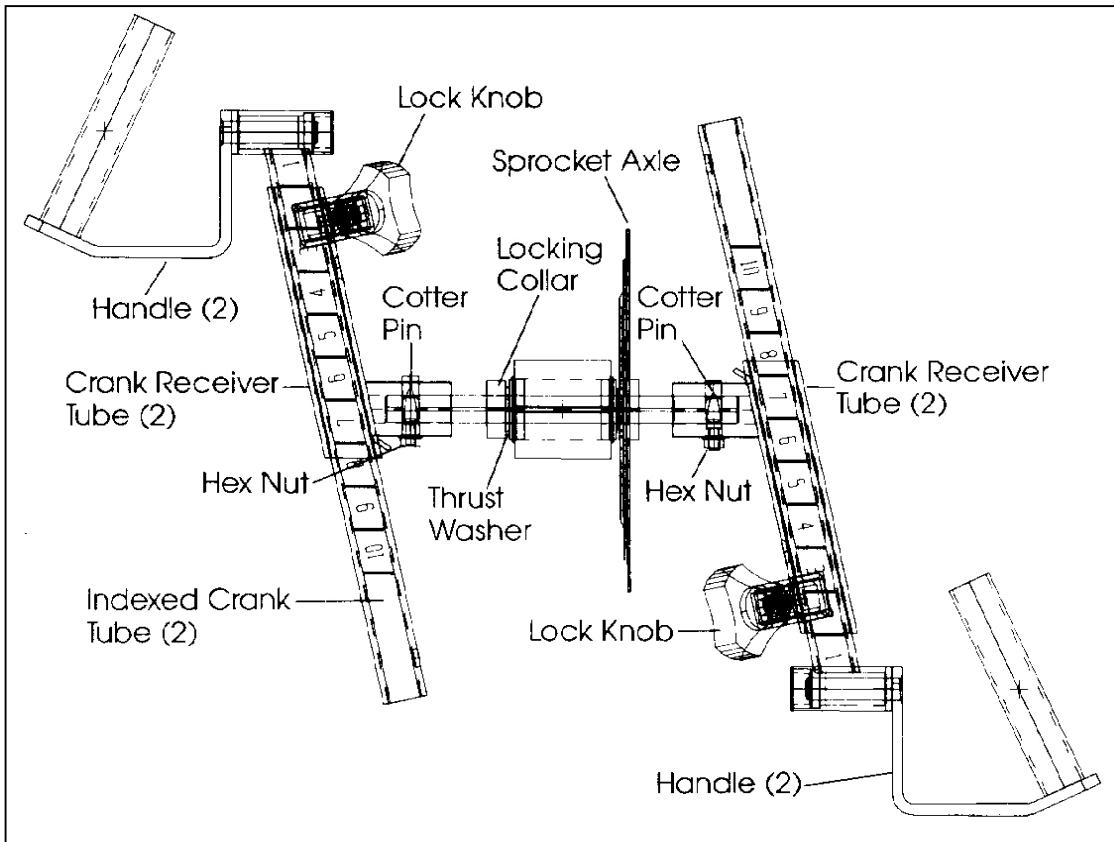

Figure 3: The UBC crank assembly.
- Remove the arm cranks (Figure 3 in Service Procedures) so the covers can be removed. To do this, remove the hex nut at the hub of each crank, drive the cotter pin through and discard. Replacement part number for the cotter pin is #C08602. Do not re-use cotter pin.
2. Remove both arm cranks (see Figure 3). To do this, remove the hex nuts at the hub of each crank, and drive tapered pin through and discard. Replacement tapered pin is C08602. Do not reuse tapered pin.